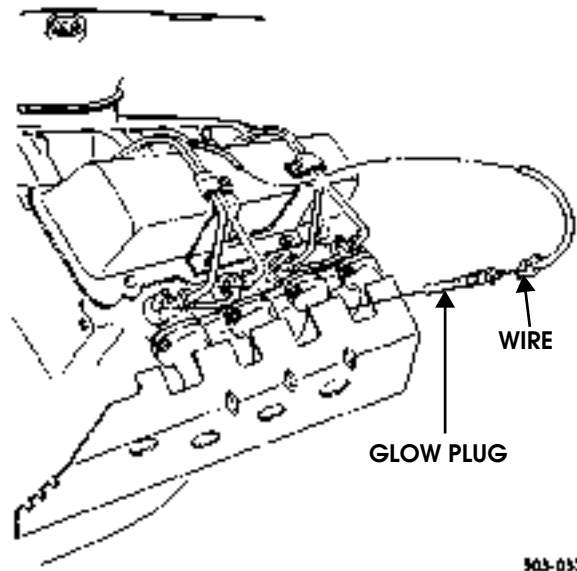

Figure 3-49: Glow Plug Removal/Installation
2. Remove glow plug from cylinder head (Figure 3-49).